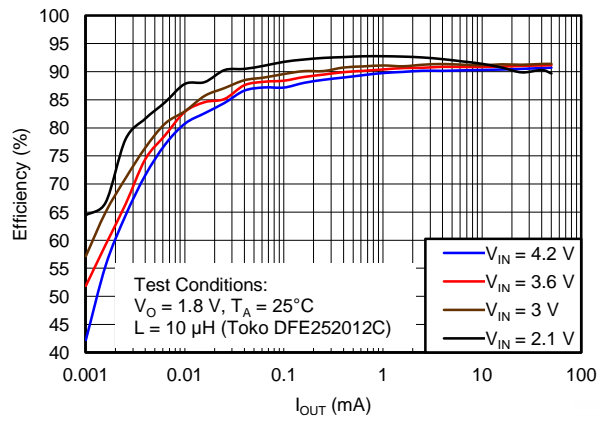
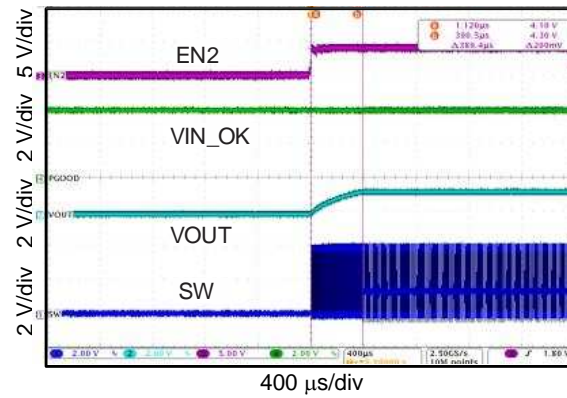

Figure 3. Efficiency Versus Load Current, $V_{OUT} = 1.8\text{ V}$
Figure 7. Standby-Mode Startup Behavior
1. If measuring DC waveforms similar to those shown in Figure 3 – Figure 7, set the timebase as shown in the plot and connect the probes to the applicable headers (IN, OUT, VBAT_OK) or SW pin and the closest GND header.